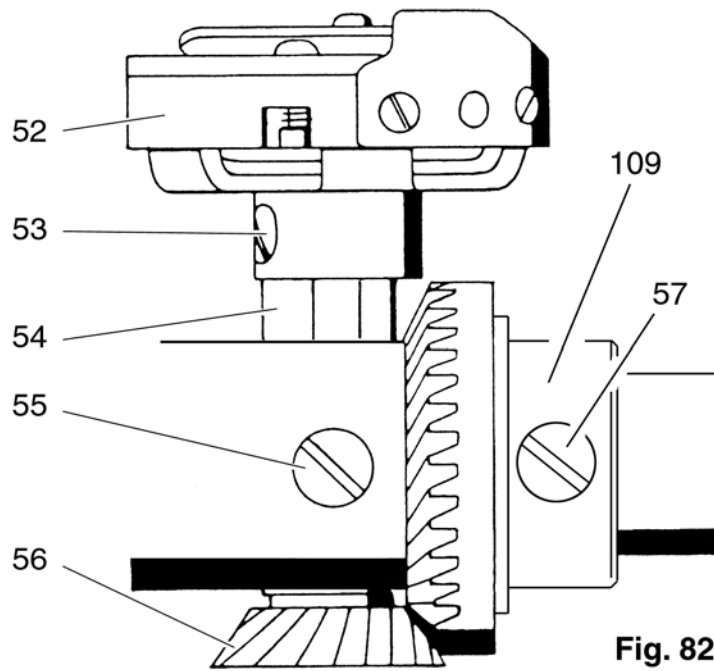

Fig. 82
- Loosen both screw 53 of the sewing hook (fig. 82).
- Insert the new hook driving shaft with bevel gear 56 in the sewing hook bearing (fig. 82).